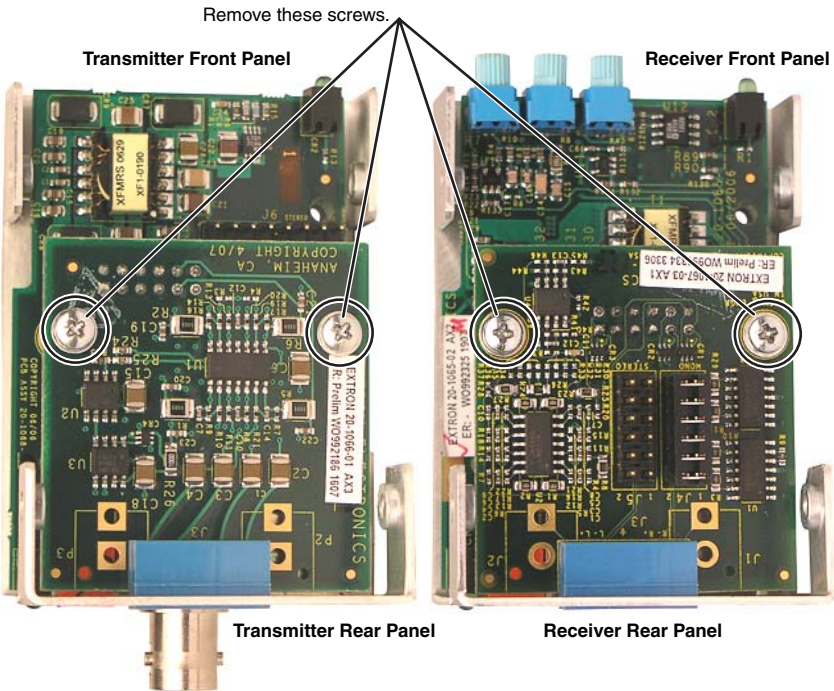

Figure 2-2 — Removing the audio board
4. If the transmitter or receiver is an audio unit, remove and retain the two screws that secure the audio board to the main (video) board (figure 2-2). Pull the audio board back until the audio connectors clear the back of the unit and lift the board out of the way.
NOTE Step 4 and figure 2-2 are correct for either S-video or composite video models.